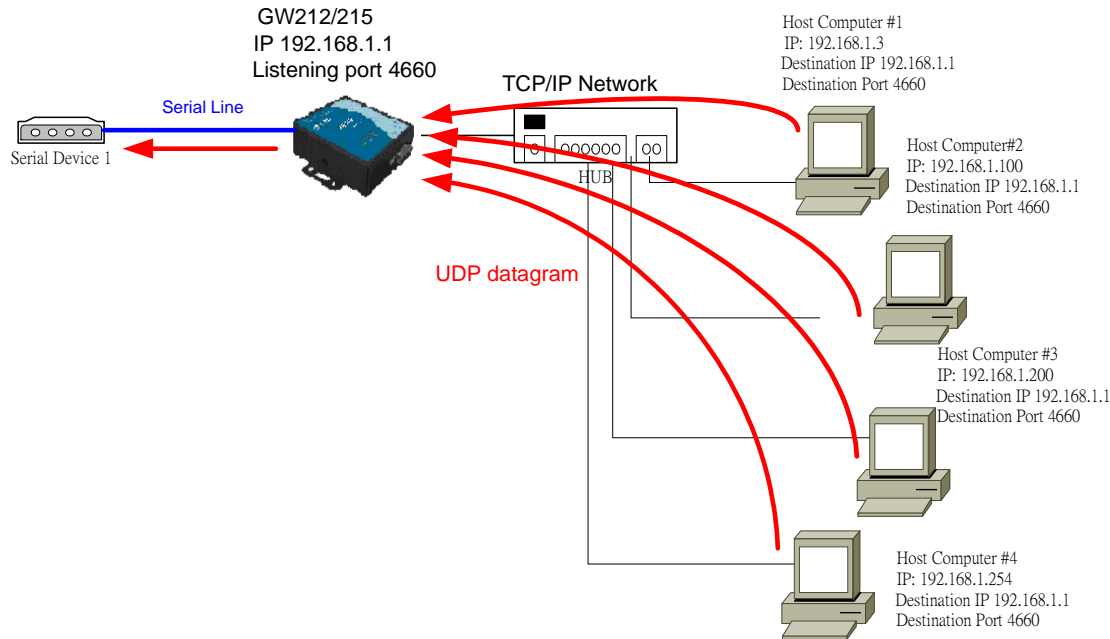

Figure 3.27 Example for UDP Slave(server) Mode
2. **Slave(Server) Mode** : To establish a connection using unicast or broadcast data from one or multiple host computer to serial device.(Figure 3.27)